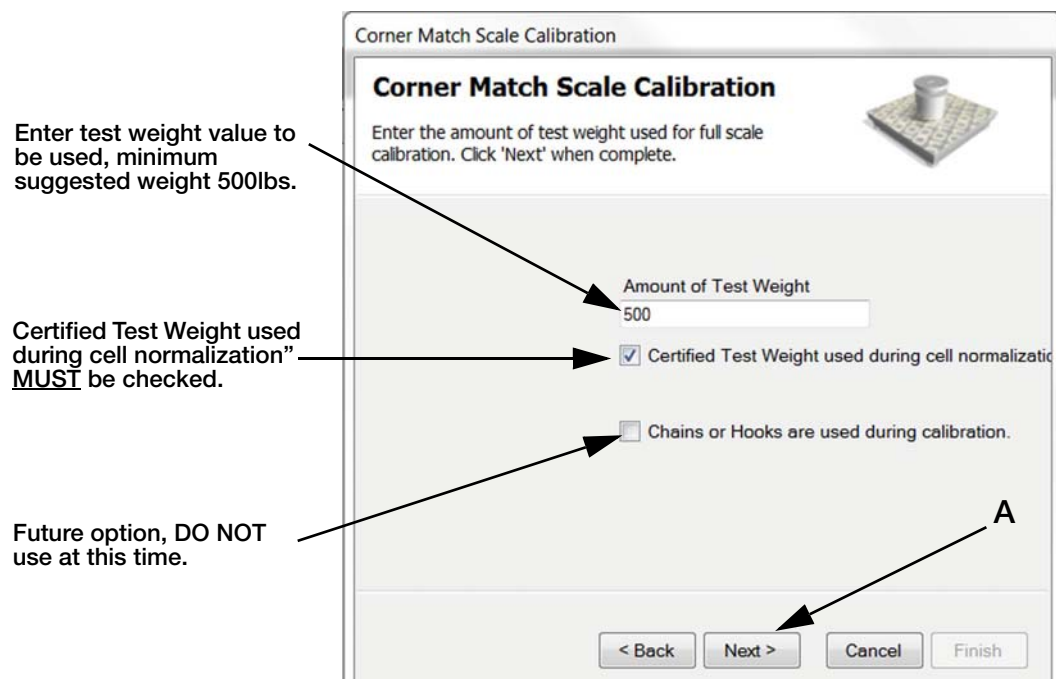

Figure 4-10. Enter Test Weight Value
3. Enter test weight value to be used and press **Next** (Figure 4-10 A).